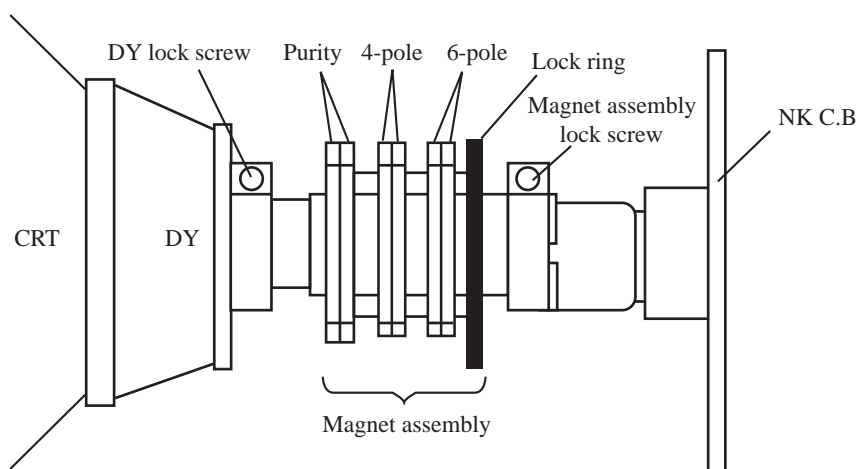

Fig 1-4
(4) The composition of each magnet is as appears in Fig. 1-4.
Be careful not to loose the lock ring too much. If the magnet assembly has become shifted during adjustments, secure it to the position in Fig. 1-4.
- (4) After adjustments are completed, secure all magnets with the lock link. (Refer to Fig. 1-4)